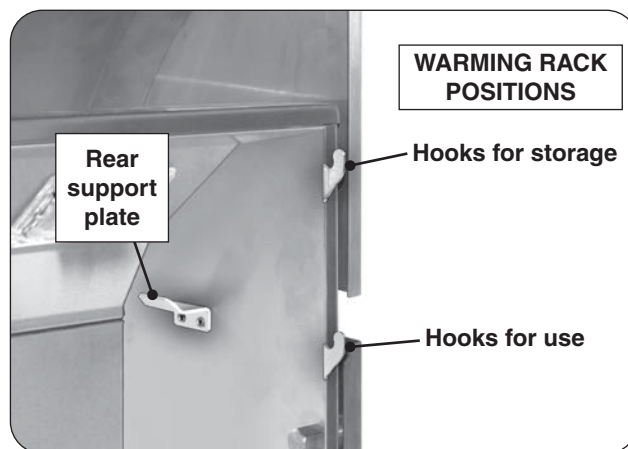
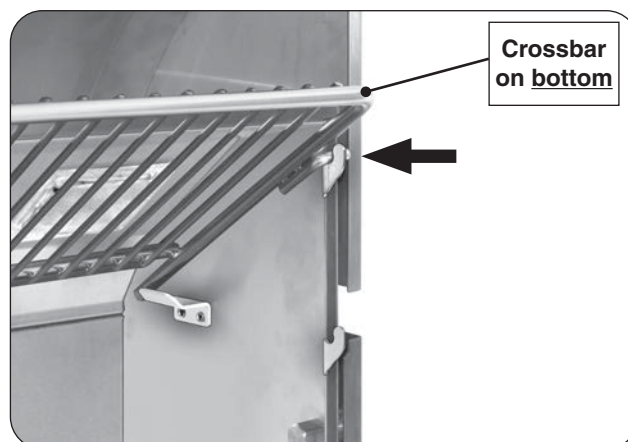

Fig. 25-1 Warming rack hooks
Fig. 25-3 Place warming rack in storage position
1. Locate the warming rack hooks and rear supports found on the upper portion of the grill oven (see Fig. 25-1).
Use the top hooks for storage (see Fig. 25-1 and Fig. 25-3).